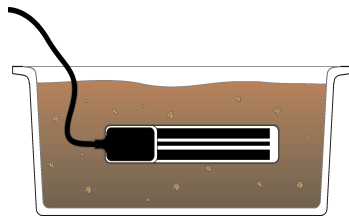

Figure 2
5. Pour the soil into the container and position the sensor as shown in Figure 2. The long axis of the sensor should be placed horizontally, with the short axis or “blade” oriented vertically so that water does not pool on the sensor.